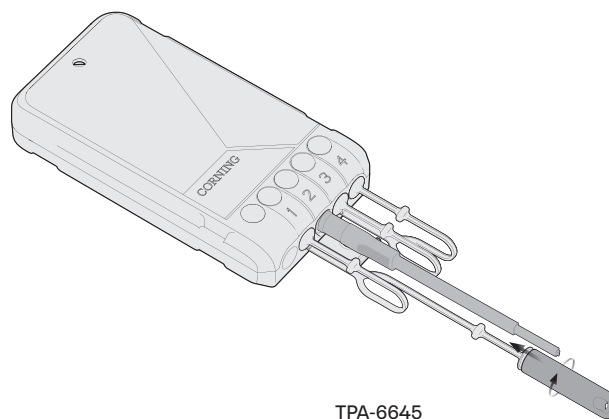

Figure 30
**Step 4:** Connect the terminal port dust plug with the connector dust cap (Figure 30).